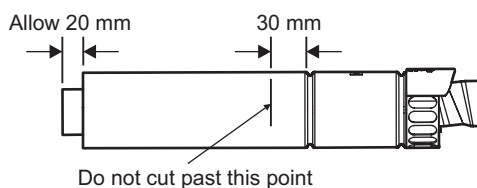

Fig. 5.12
5.8 REDUCING THE FLUE - Fig. 5.12
When the flue length required is less than the minimum stated in Section 5.7, paragraph 1, refer to Fig. 5.12. Discard the first telescopic section (**not** the section with the terminal) of the Easy-Flue 1000 mm or 500 mm and cut to the required length.